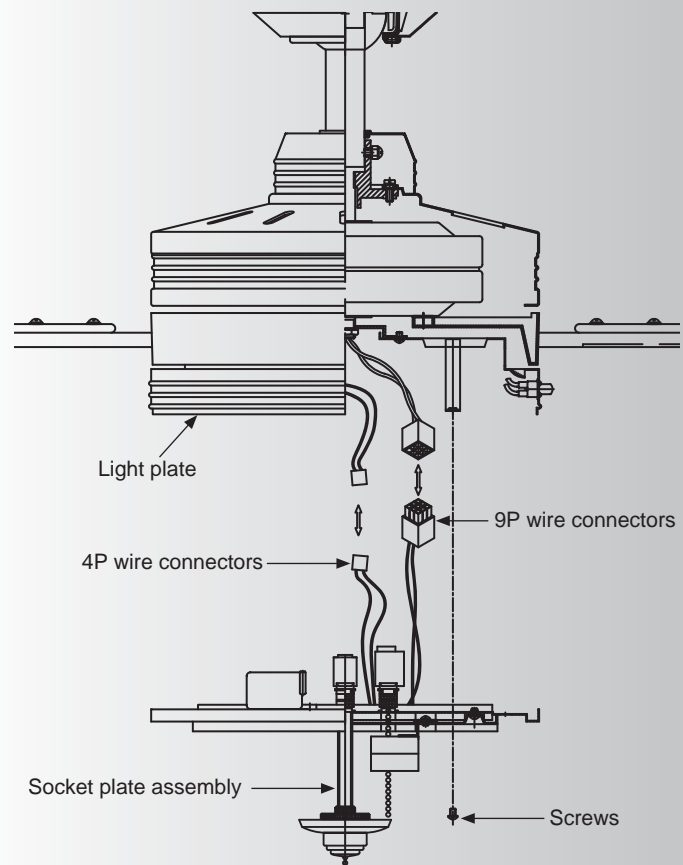

Fig. 16
Step 2. While holding the socket plate assembly under your ceiling fan, push the nine pin square wire connectors together. One from the fan and one from the socket plate assembly. Follow the same procedure with the four pin square wire connectors. (Fig. 16)
Step 3. Tuck the connections neatly into the light plate. Place the key holes on the socket plate assembly over the 2 screws previously loosened from the light plate, turn the socket plate until it locks in place at the narrow section of the key holes. Secure by tightening all three screws. (Fig. 16)